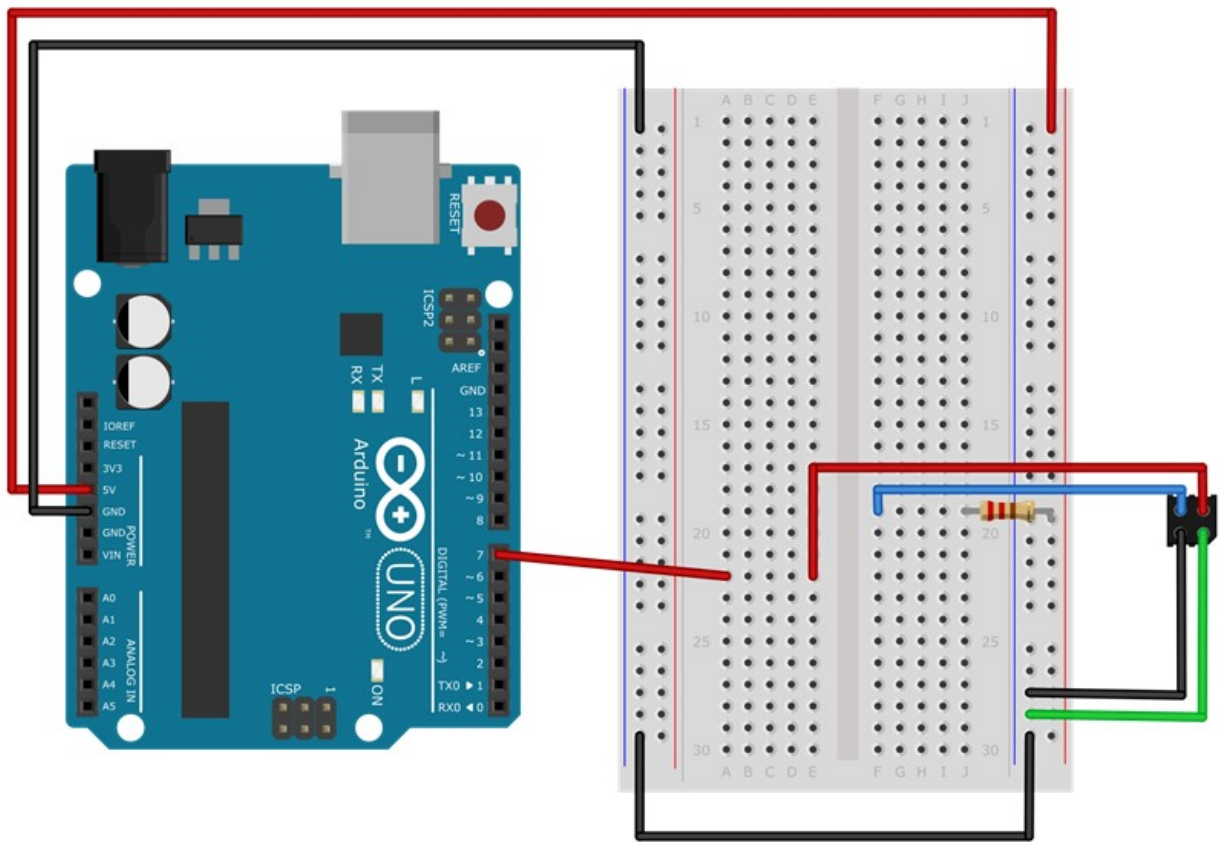

Figure 7. IR sensor connected to the Arduino
8. Connect the IR sensor to your Arduino as shown in Figure 7. Note that the H-bridge, motors, and batteries are omitted from this diagram to avoid clutter, but you can leave them connected in your circuit.
- c. You can change the motors' speed using the analogWrite() command (see Figure 7). In the example program the motors are set to "full speed," or 255. It might be easier to control your robot if it is not going full speed at all times.